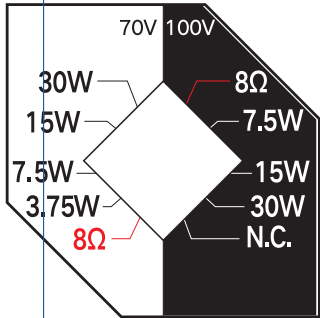

Figure 4
1. Using the provided Flat Screwdriver (O), carefully pry the logo plate away from the loudspeaker grill.
2. Referencing the Tap Position Switch label behind the logo, use the Flat Screwdriver (O) to adjust the verify the correct setting for the system. (see figure 4). You can make any of five different settings, although the dial has dual calibrations so at first glance it appears to have ten settings. The 8Ω position is the same on both sides and is for a low impedance connection.